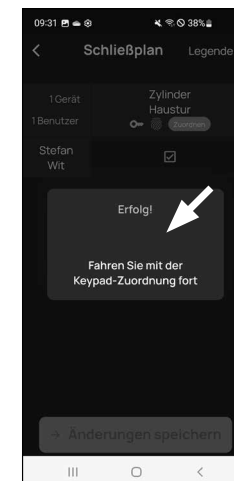

Fig. 6
- ⑦ The data will be transferred. A confirmation will appear after a brief moment and at the same time a request to now assign the keypad. Tap on the confirmation message (Fig. 6).